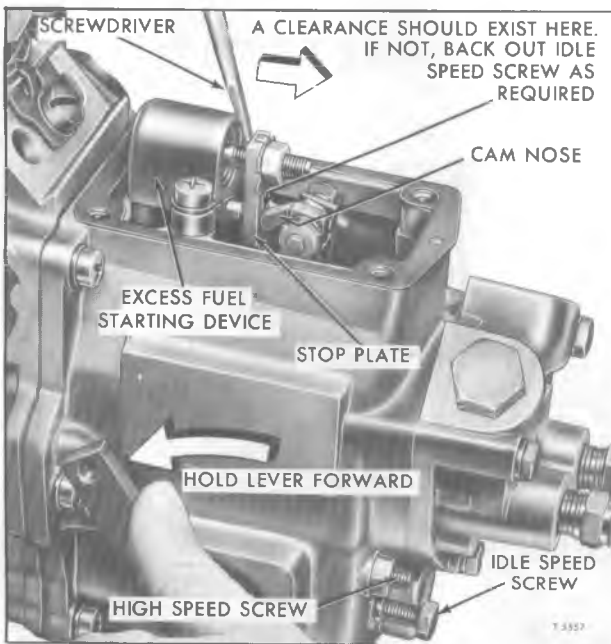

Figure 14—Checking for Clearance Between Cam Nose and Stop Plate
IMPORTANT: The normal idle and maximum speeds depend almost entirely on the characteristics of the governor springs, hence the speeds can only be varied to a limited degree by the adjusting screws at rear of governor housing (fig. 14).
2. While holding operating lever (fig. 14) in "IDLE" position, and stop plate (fig. 14) to rear of engine against spring tension of excess fuel starting device, check to see if there is clearance between cam nose and stop plate. If there is no clearance, back out idle adjusting screw (fig. 14) just to obtain clearance before making spring pack adjustment.